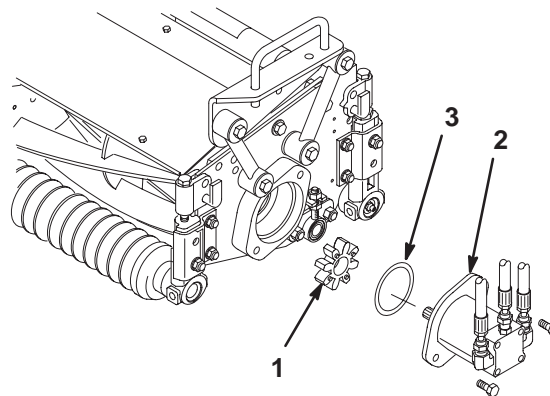

**Figure 8**
8. Secure the other end of the lift chain to the hole in the lift arm mounting tab with clevis pins and cotter pins. Use the appropriate hole in the lift arm as designated in Figure 8.